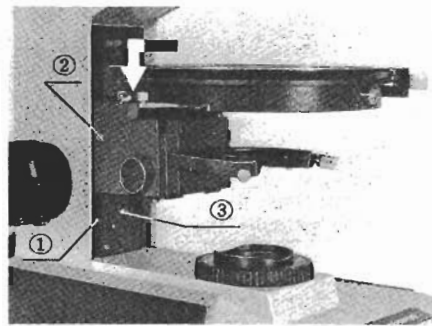
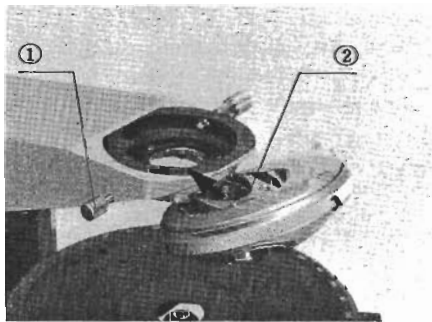

Fig. 2
Fig. 3
④ Mounting the stage
- 1) Prior to mounting the stage, rack down the stage mounting dovetail ① all the way. (Fig. 2)
- 2) Loosen the stage clamping screw ② by rotating counterclockwise with Allen wrench provided. (Fig. 2) Insert the stage into the mounting dovetail ① from above slowly. (Fig. 2)
- 3) Lower the stage until it comes in contact with the stop pin ③; then clamp with screw ②. (Fig. 2)
⑥ Mounting the revolving nosepiece
- 1) Loosen the nosepiece clamping screw ①. (Fig. 3)
- 2) Aligning the nosepiece dovetail slide to the mounting block ②, push in the nosepiece slowly all the way.
⑧ Mounting the intermediate polarizing attachment